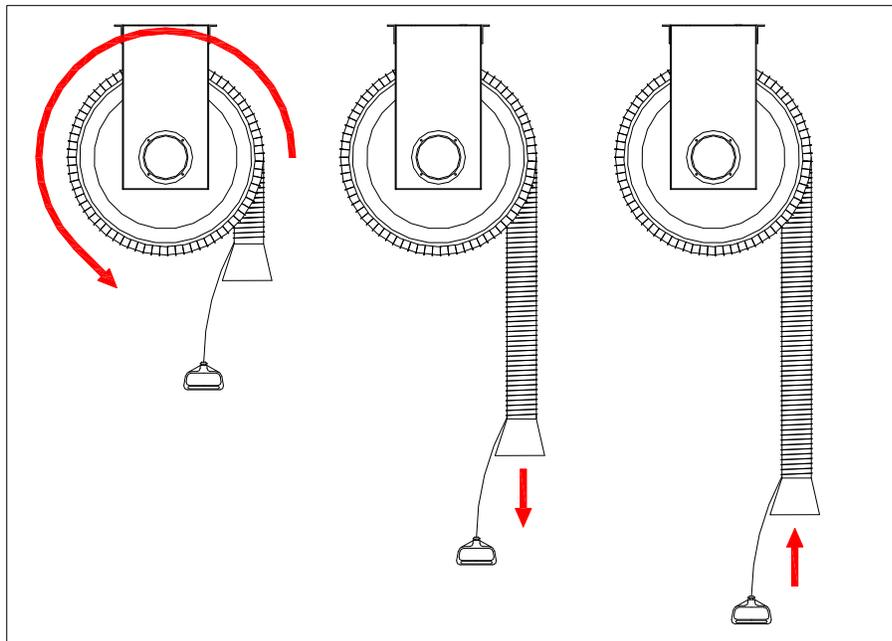

FIG5 - TENSION ADJUSTMENT PROCEDURE <DECREASE>
- b. To decrease tension, rotate the drum so all the hose is on the drum and lock into place. With the reel locked into place, take a loop of hose off of the drum so the removed hose hangs vertically. You will need to remove the adjustable hose stop and may also need to remove the exhaust adapter. Repeat this procedure until reel retracts hose slowly to desired height. See FIG5 for adjustment illustration.